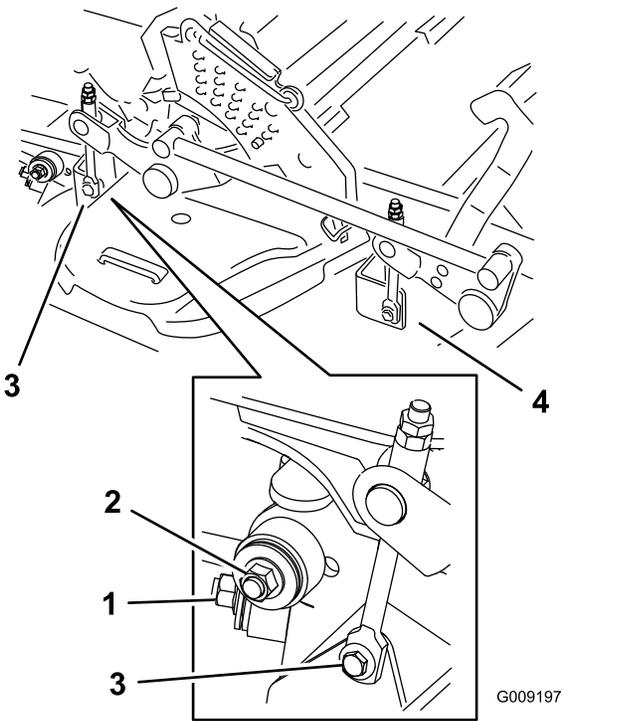

Figure 102
7. Remove and retain the hardware on both sides of the deck (Figure 102).